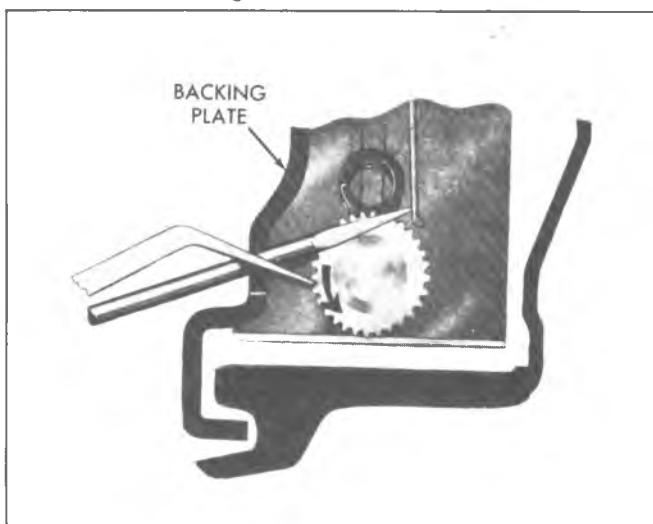

Fig. 45--Flange Plate Access Hole
**NOTE:** If brake drums are worn severely, it may be necessary to retract the adjusting screw. To gain access to the adjusting screw star wheel, knock out the lanced area in the brake drum or flange plate using a chisel or similar tool. Release the actuator from the star wheel with a small screwdriver on models with access hole in flange plate or with a wire hook on models with hole in drum. Back off the star wheel with a second screwdriver (as shown in Figures 45 and 46).